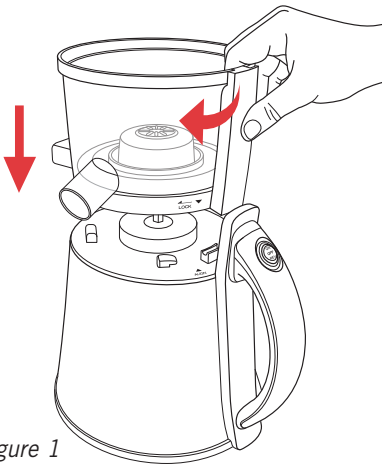

Figure 1
1. Set the motor base on a dry, level surface and place the juicing bowl onto the top of the motor base. Rotate clockwise and lock into place – figure 1.